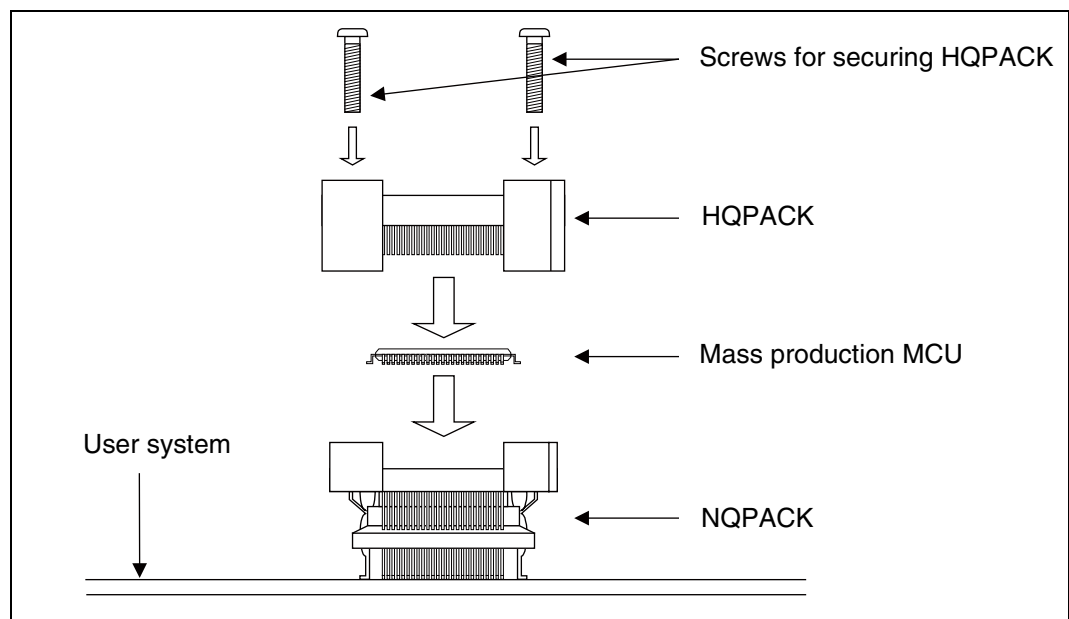

Figure 5 Mounting a mass production MCU
To mount a mass production MCU on the user system, use the supplied HQPACK (See Figure 5).
3. Insert each screw for securing HQPACK in each of the four screw holes on the HQPACK (See Figure 5).